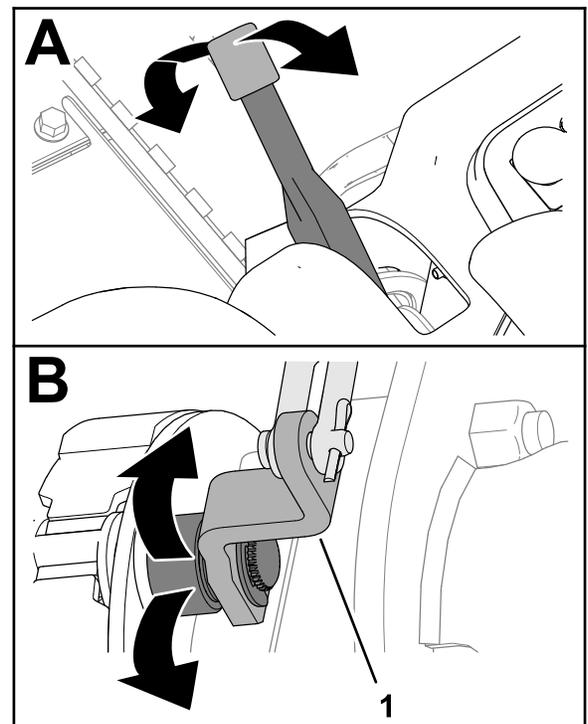

Figure 83
2. Move the parking brake lever up and down to check that the lever for the brake-cam lever moves freely (Figure 83).